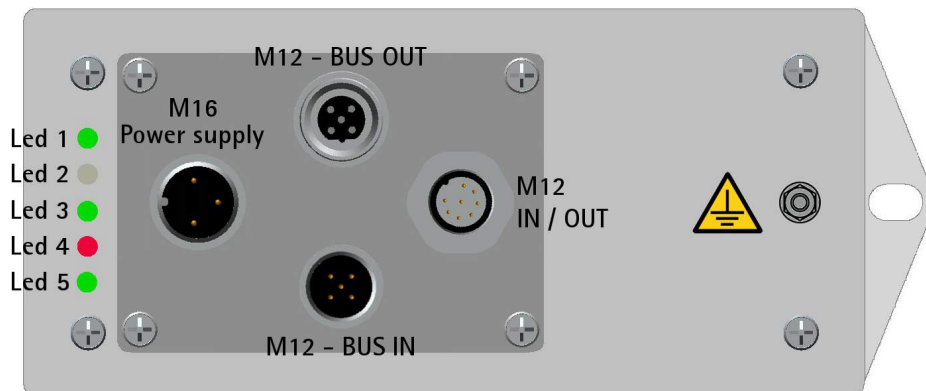

Figure 3: Electrical connections and diagnostic LEDs
4.1 Ground connection (Figure 3)
4.2 Connectors (Figure 3)
4.3 Diagnostic LEDs (Figure 3)
Five LEDs located next to the M16 power supply connector (see Figure 3) are meant to show visually the operating or fault status of the Profibus interface and the device as well. The meaning of each LED is explained in the following table: